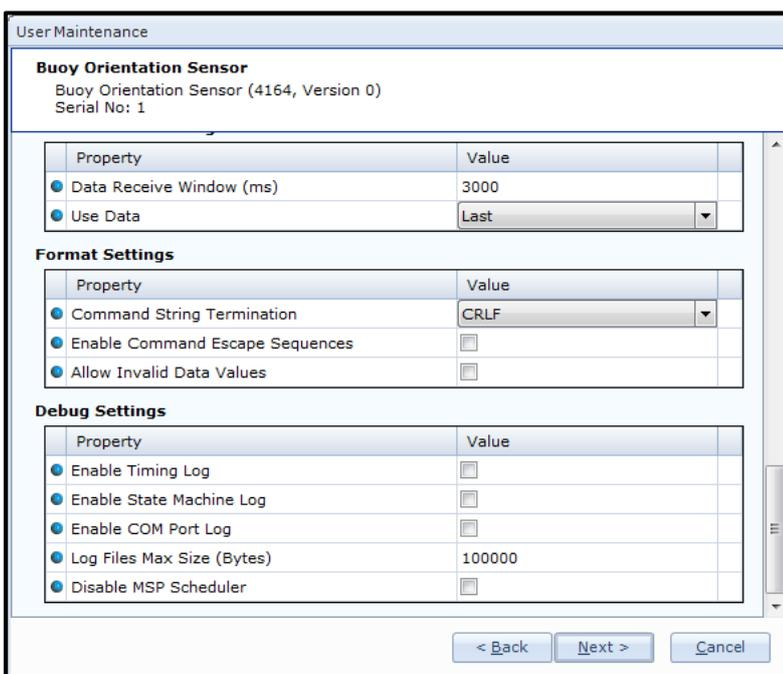

Figure 5-6 User Maintenance > sensor
- Select “**User maintenance**” settings: open **Device Configuration** tab, check **Include User Maintenance** and press “**Get Current Configuration...**” then press “**Edit..**” (**password=1000**). in the User Maintenance heading, select the actual sensor in the sensor list and press “**Configure Selected...**”. Refer **Figure 5-6 User Maintenance > sensor** and Table 5-1 for a description of settings; refer TN 362 for some sensor examples.